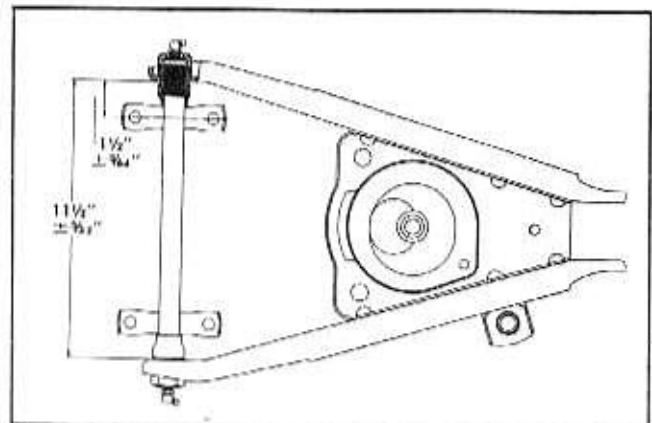

Fig. 3-20 Correct Installation of Shaft in Lower Control Arm
e. Check to see that distance between inner faces of shaft ends of control arm is $11\frac{1}{2}$ " plus or minus $\frac{3}{32}$ ". Also check to see that distances from center of pivot shaft bolt holes to inside faces of arm are equal at each end (Fig. 3-20). Turn pivot shaft in arm to centralize if distance is not equal.